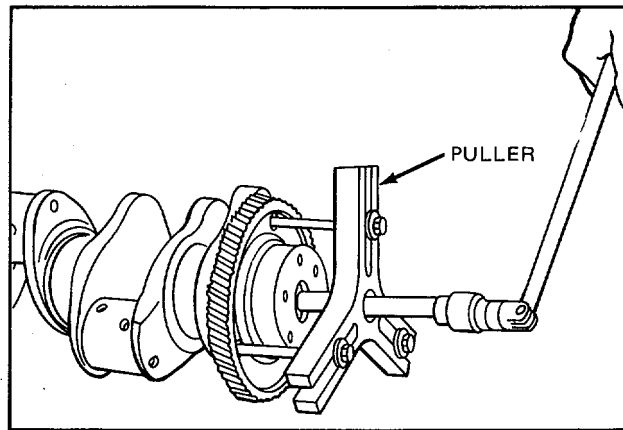

Figure 1. Removing Crankshaft Timing Gear
3. Attach bar-type puller J 4871 to the crankshaft gear with three long bolts or hooks, flat washers, and nuts through the holes in the gear as shown in Fig. 1.